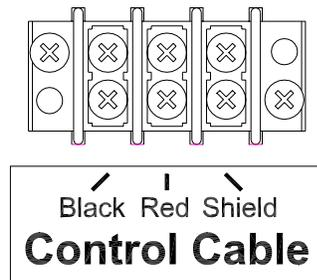

Figure 15 Data Cable Wiring Diagram
2. Connect the data cable to **Control Cable** terminal block on the junction chassis according to figure 15.